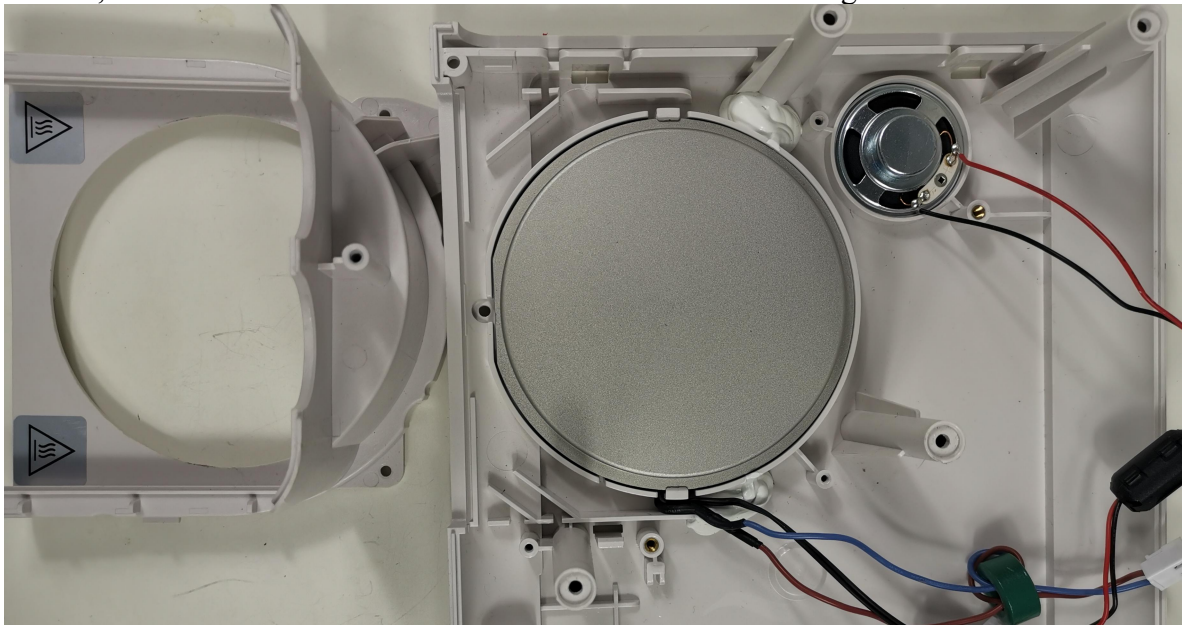

Figure 3-6-4
② Use a Phillips screwdriver to remove the 3 screws in the red circles as Figures 3-6-2 and 3-6-3, remove the bottom shell of the water tank as shown in Figure 3-6-4.